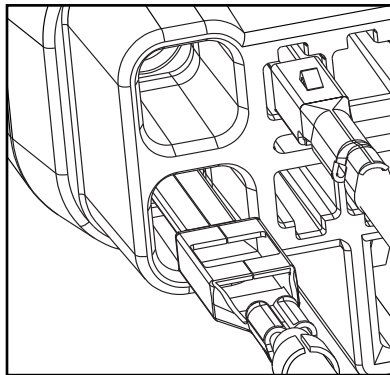

FIGURE 3
- Orient the male terminals correctly with each terminal position opening in the male connector assembly as shown in Figure 3.